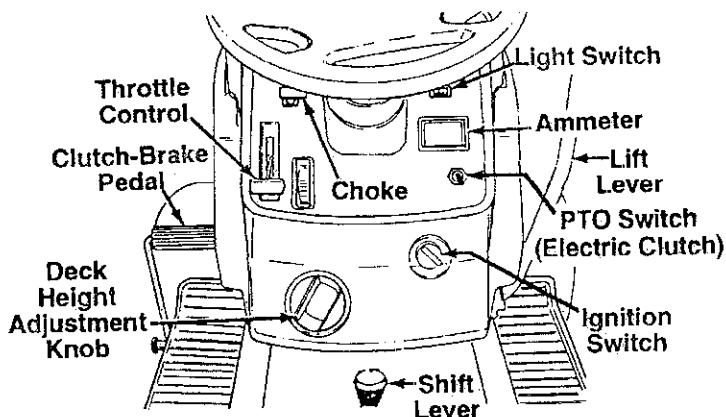

FIGURE 9
The throttle control is used to regulate the engine speed. To get maximum efficiency from cutting, the throttle should be in the FAST position when operating the mower. See figure 9.
Turn the key to the START position to start the engine. When the engine is running, leave the key in the ON position. To stop the engine, turn the key to the OFF position and remove it to prevent accidental starting. See figure 9.
The head lamps are operated by pushing the light switch located on the dashboard. The head lamps will only operate when the engine is running. See figure 9.
The choke control is located on the dashboard and is operated manually. Details for the choke operation are covered in the separate engine manual packed with your unit. See figure 9.
The shift lever is located in the center of the console and has three positions, FORWARD, NEUTRAL and REVERSE. See figure 9. The clutch-brake pedal must be depressed and the lawn tractor must not be moving when shifting gears. Do not force the shift lever. Release the clutch-brake pedal slightly to line up the shifting collar in the transmission. Then try to shift gears.
The ammeter registers the rate of battery charge or discharge. The ammeter will register on the discharging side with starting the engine. It should register on the opposite side (charging) when the engine is running in the fast position until the battery is completely charged. With a fully charged battery or with the engine idling, the ammeter will not show a charge. See figure 9.
The clutch-brake pedal is located on the left side of the tractor. See figure 9. Depressing the clutch-brake pedal part way disengages the clutch. Pressing the pedal all the way down disengages the clutch and engages the disc brake. See figure 9.
The PTO switch is located on the right side of the dashboard. See figure 9. The PTO switch must be in the OFF position (down) when starting the engine, when shifting into reverse and if the operator leaves the seat.
4. Set the throttle control in the FAST POSITION. See figure 9.
6. Turn the ignition key to the START position. When the engine is running let the key return to the ON position. See figure 9